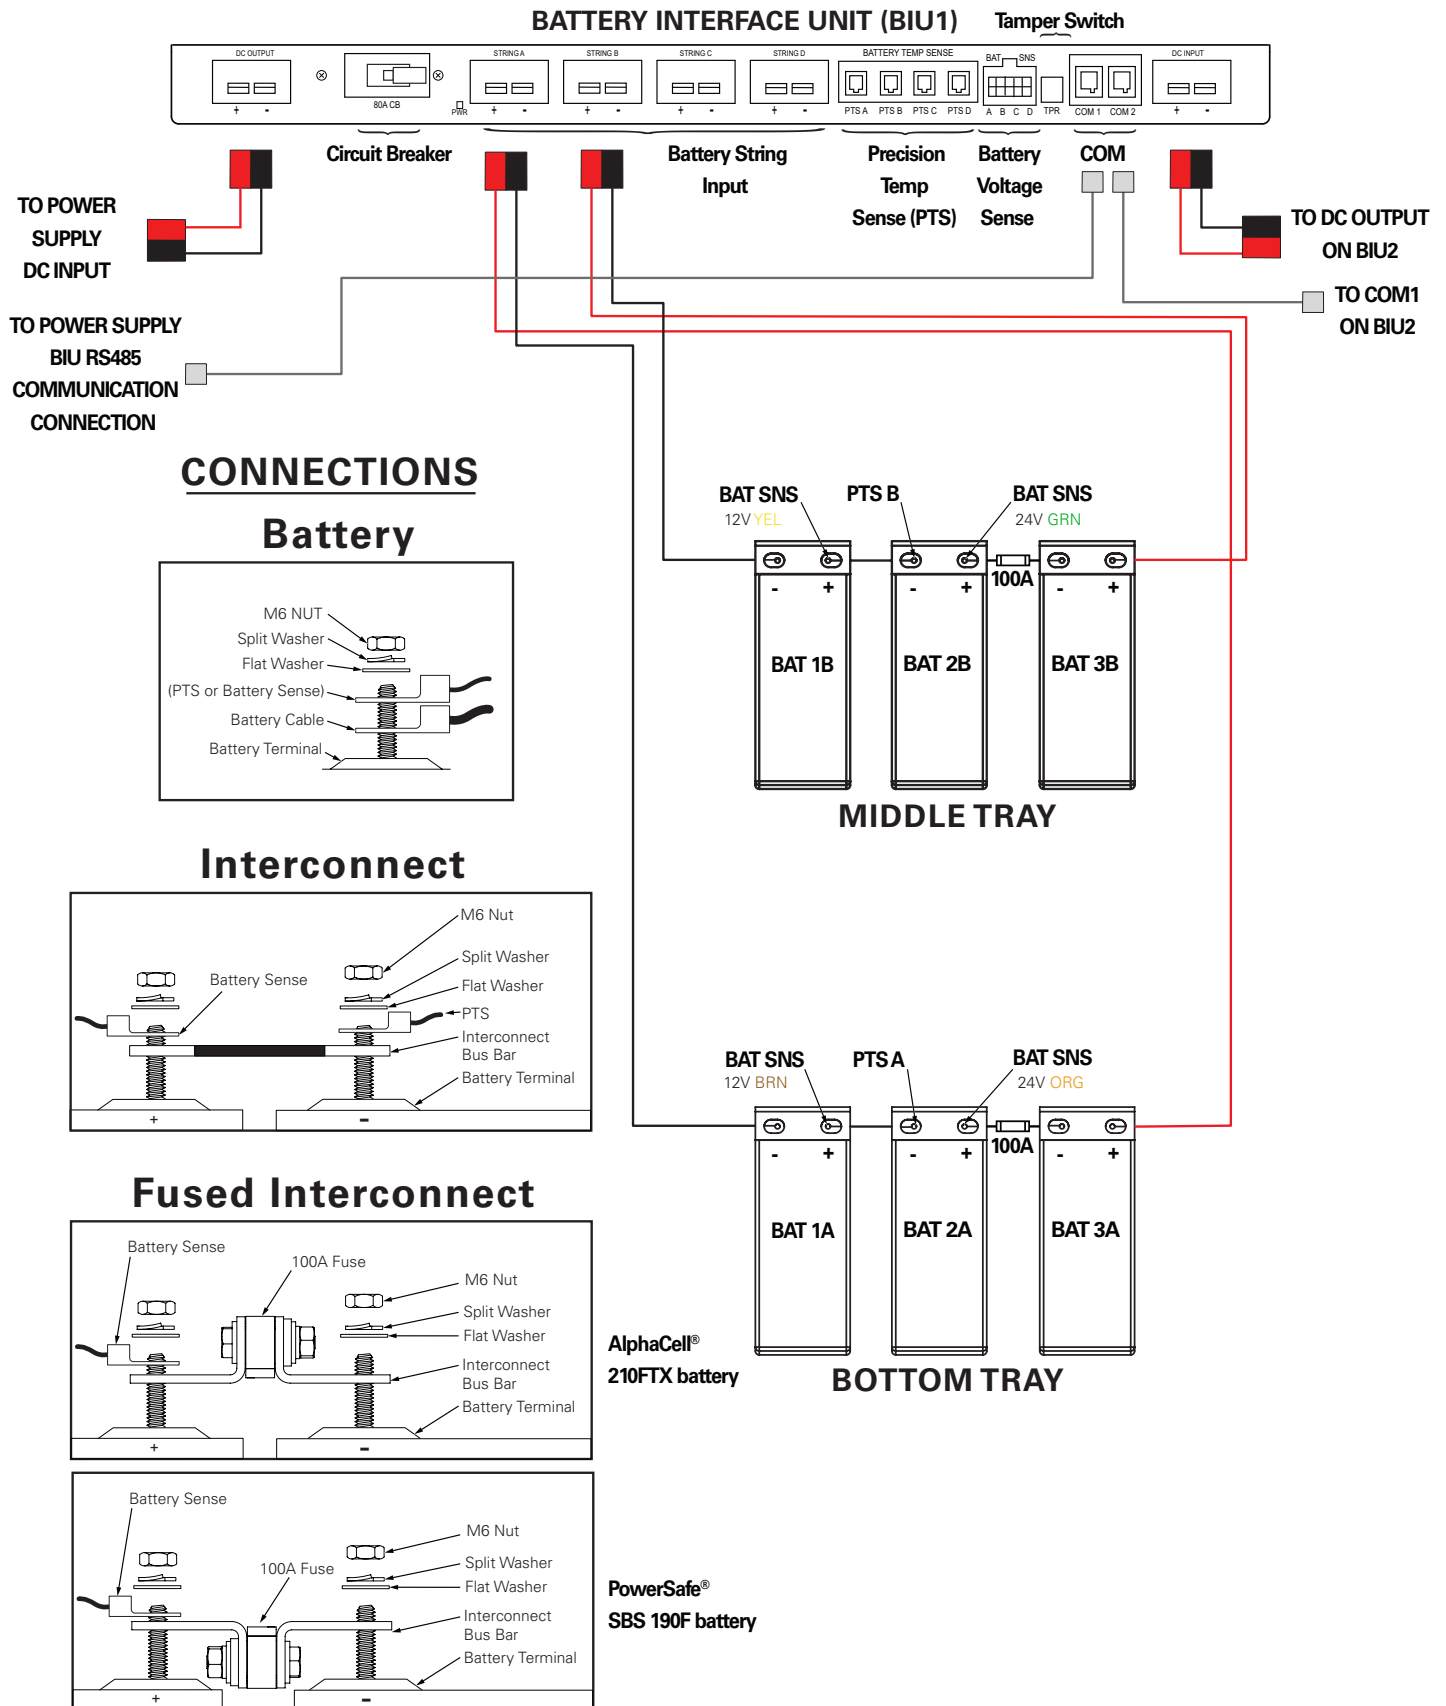
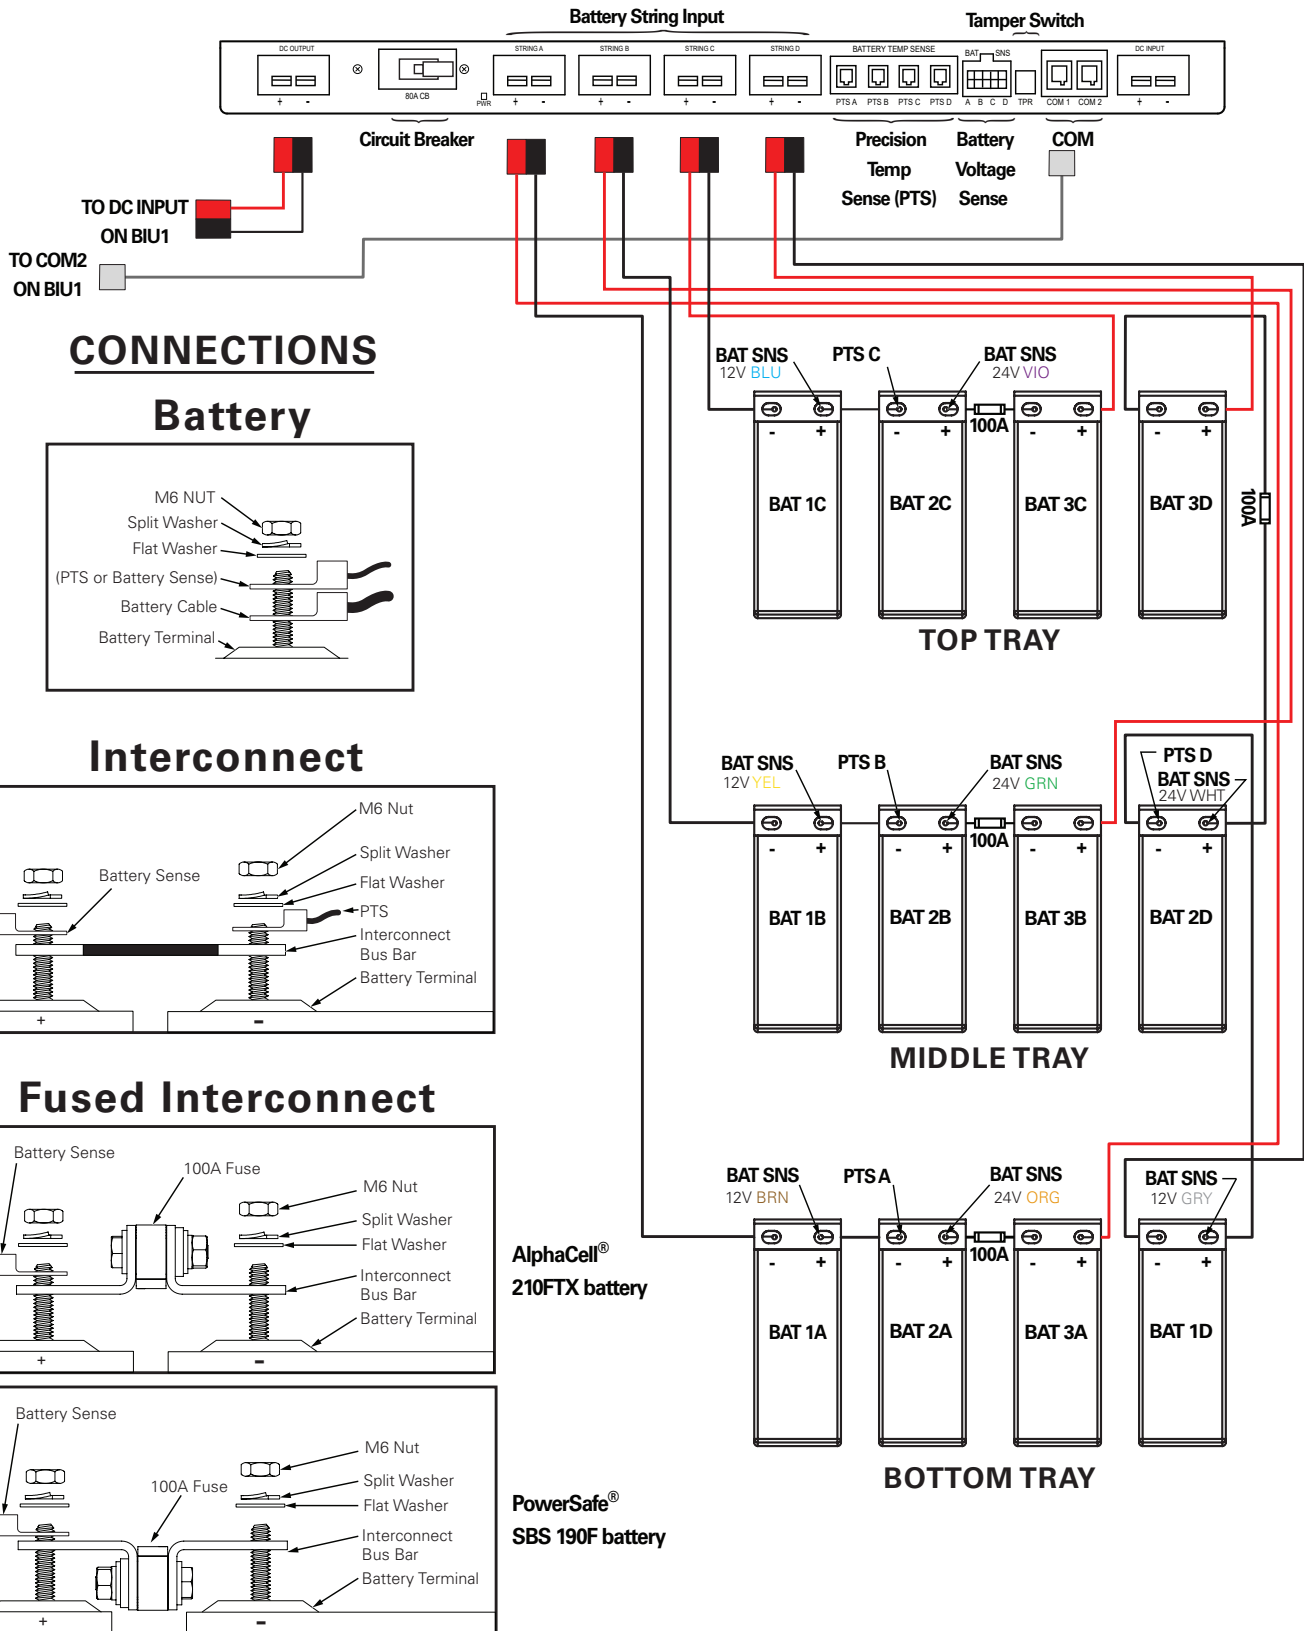

Fig. 3-29, PN-4 FT XRT-TPPL Power System Wiring Diagram
Fig. 3-30, PN-4 FTB XRT-TPPL Power System Wiring Diagram
Battery string locations for an 18-battery configuration are noted in Fig. 3-29 and Fig. 3-30. Each string uses three batteries. String D consists of the fourth battery on each row in the PN-4 FTB enclosure. Review hardware stack-up and wiring diagram to see the recommended layout and set up, then proceed with the installation procedure below.
13. Install wiring harness kit (876-00059-20 BAT,INTG,36VDC,2STRG,PN4FT,W/BIU,PTS,BS) in the PN-4 FT enclosure with two battery trays. (See Fig. 3-29 and *p/n 031-00014-08* System Wire Diagram available on Alpha's website for reference.)
17. Install wire harness kit (876-00059-22 BAT,INTG,36VDC,4STRG,PN4FT,W/BIU,PTS,BS) in PN-4 FTB enclosure with 3 battery trays. (See Fig. 3-30 and *p/n 031-00014-08 System Wire Diagram* available on Alpha's website for reference.)
Precision Temperature Sensors (PTS) are mounted to specific battery terminals. Refer to Fig. 3-29 and Fig. 3-30 for hardware stack up and specific battery terminal placement. Connect the corresponding PTS cable to the BIU. Ensure the COM1 cable is connected to BIU communication connection on the XM3.1-HP™ power supply.